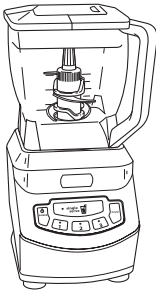

Fig. 1
- 5 Add the ingredients and secure the bowl lid onto the bowl. (Fig. 1)